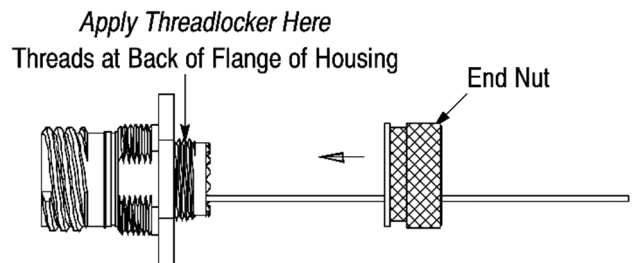

Figure 10
8. Mount the housing onto the keyed adapter tool or bench-mount fixture. Align the internal key (small bar inside) of the housing with the keyway (slot along the side) of the EB insert, and slide the EB insert partially into the housing. See Figure 10, Detail A.
10. Slide the wave spring and spacer ring into the housing. See Figure 10, Detail B.
11. Apply several drops of the threadlocker to the threads at the back of the flange of the housing. See Figure 10, Detail C.
12. Thread the end nut onto the housing. See Figure 10, Detail C. Using the strap wrench or soft-jawed pliers and torque wrench or torque stand, tighten the end nut to a torque between 5 and 6 N·m.